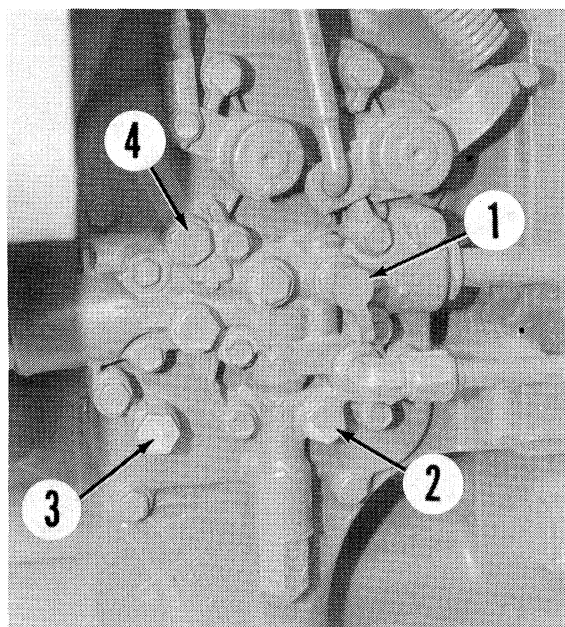

Fig. 100—View of pressure regulating valve housing used on models equipped with a Perma-Clutch and Quad-Range transmission.
95. CLUTCH PRESSURE CHECK. To check clutch system pressure, install a 0-300 psi (0-2000 kPa) pressure gage in clutch pressure test port of pressure regulating valve housing (Fig. 100). With transmission in "PARK," transmission oil at operating temperature and engine running at 2000 rpm, clutch pressure should be 170-180 psi (1170-1240 kPa). Depress clutch pedal while observing pressure gage. Clutch pressure should fall to zero when pedal is depressed, then gradually rise as pedal is slowly released.
97. PTO CLUTCH AND BRAKE PRESSURE CHECK. Install 0-300 psi (0-2000 kPa) pressure gages at pto clutch test port (3—Fig. 100) and at pto brake test port (4) on pressure regulator valve housing. Specified pto clutch and brake pressure is 170-180 psi (1170-1240 kPa). To check pressure, proceed as follows: With engine running at 2000 rpm, engage pto clutch gradually. Clutch pressure should rise gradually to 130 psi (8900 kPa), then jump to system pressure